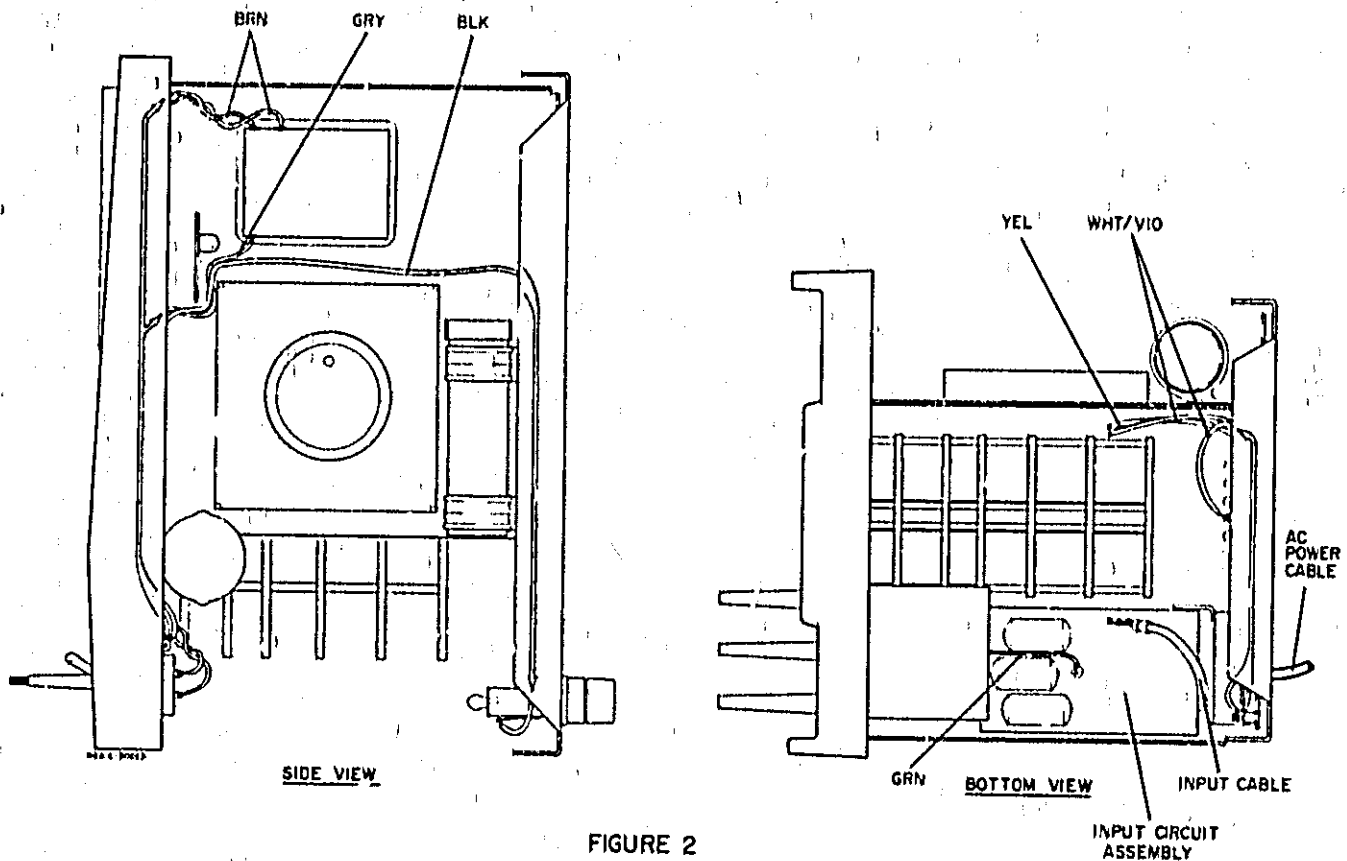

FIGURE 2
4. Be sure the input coaxial cable is routed over the top of the input circuit assembly and away from the rear of the instrument. (Steps 4 thru 10 refer to Figure 2.)
8. Rotate the 412A to work on the side shown in Figure 2.